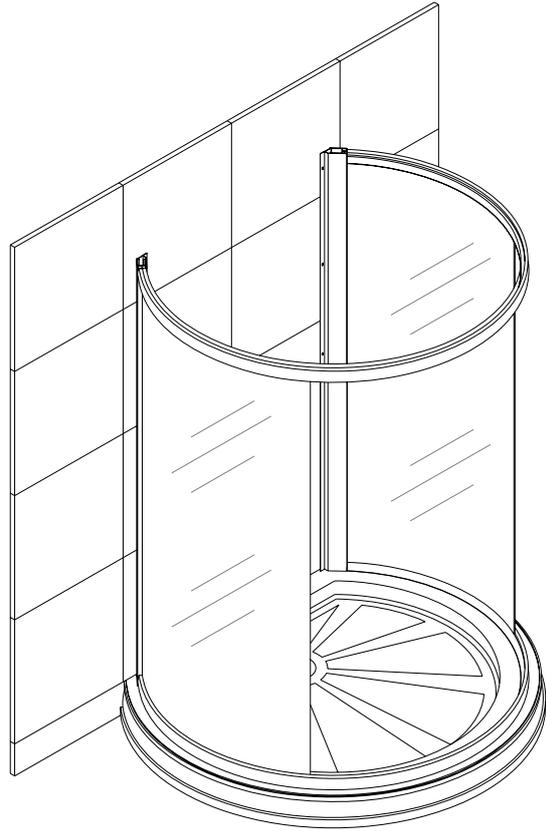

Fig 6
5. Carry the assembled unit on the top of tray; push it against wall (fig 6). You can adjust position of the shower by pulling it partially out of the Wall profile.